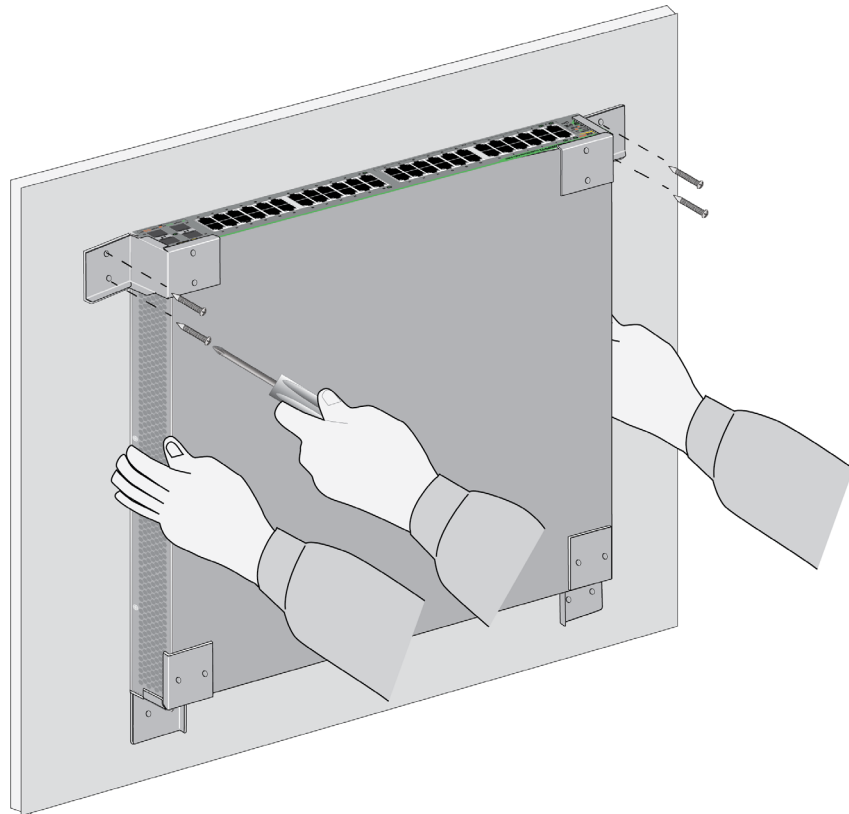

Figure 39. Attaching the Top BRKT-J22 Brackets to the Wall
8. Attach the top brackets to the wall with appropriate screws. Refer to Figure 39.